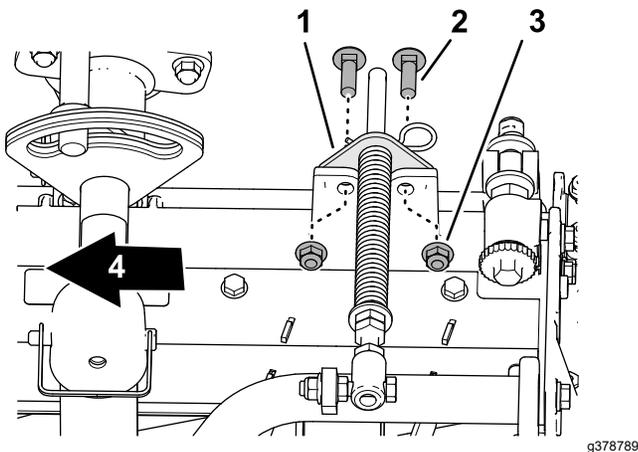

**Figure 15**
1. Slide a cutting unit under the lift arm (Figure 15).